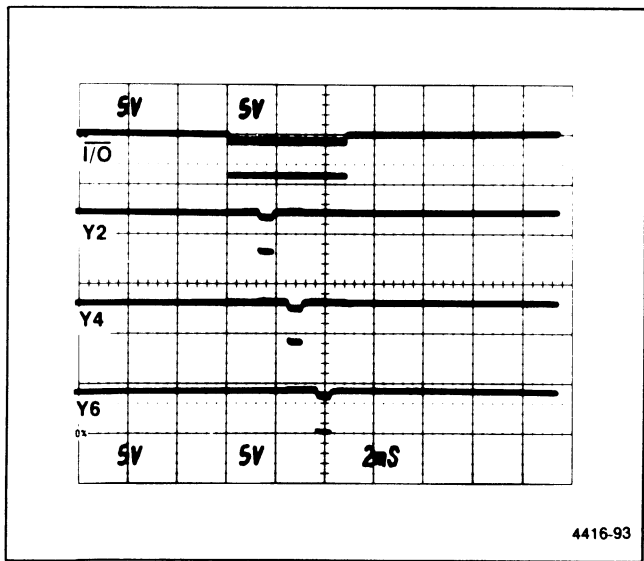

Figure 6-30. Chip selects Y2, Y4, and Y6 in relation to  $\overline{I/O}$ .
**GPiB Board Address Decoders** — Address decoder U1055 on the GPiB board sets its outputs low to select the GPiA, the GPiB address switch and the bank latch. Y2, Y4, and Y6 are shown in relation to  $\overline{I/O}$  in Figure 6-30.